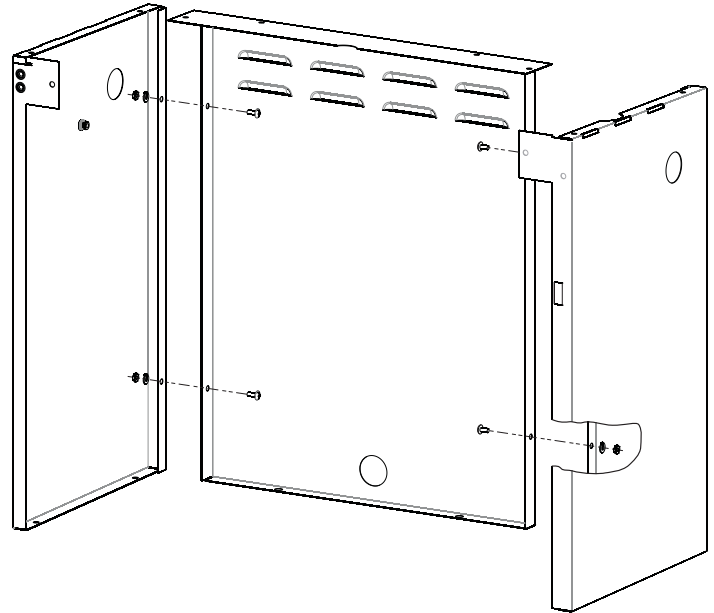

Figure 3
3. Attach Left Panel to Rear Panel with two 1/4-20 x 3/4 screws, two lock washers and two nuts. Do not tighten. See Figure 3.
4. Attach Right Panel to Rear Panel with two 1/4-20 x 3/4 screws and two nuts. Do not tighten. See Figure 3.